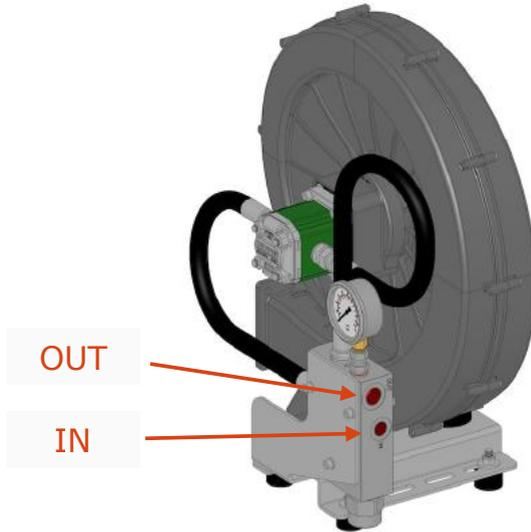

FIGURE 6
1. Connect the "IN" inlet port with 3/8" thread of the flow regulating valve to the inlet pipe (FIGURE 6);
2. Connect the "OUT" inlet port with 1/2" thread of the flow regulating valve to the outlet pipe (FIGURE 6).